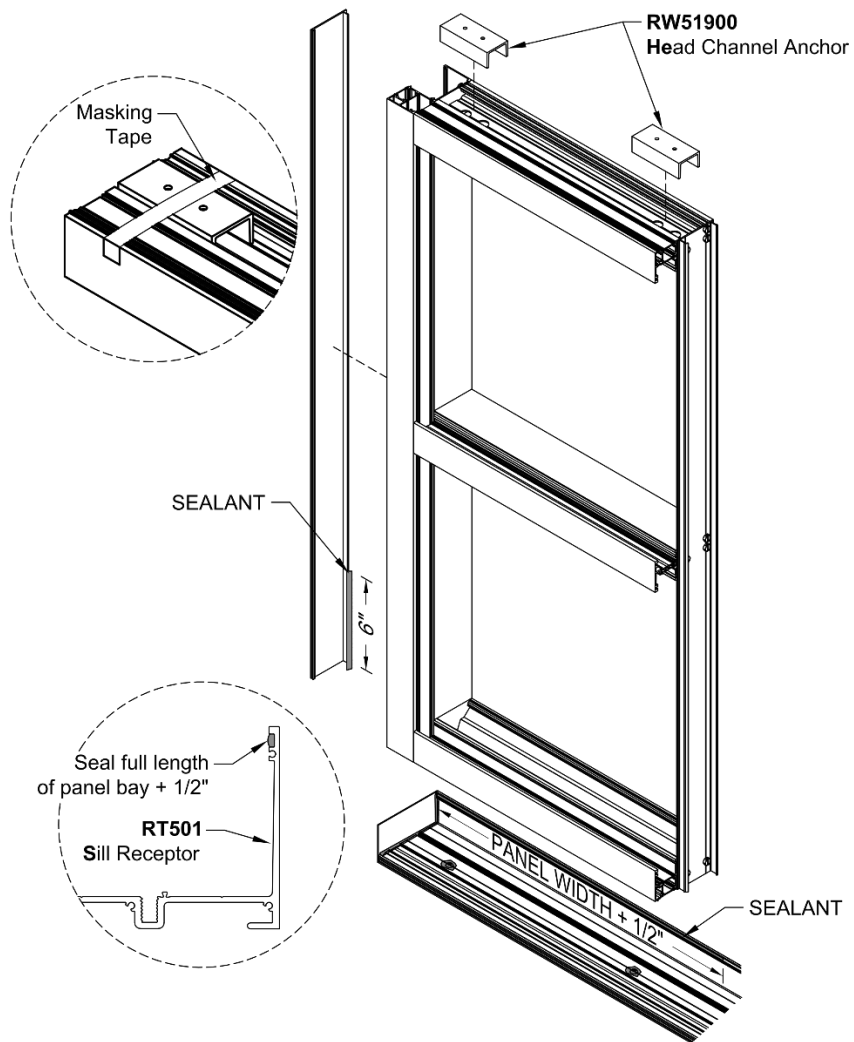

Figure 74: Panel Installation, First Panel
- 20.1 For every panel to be installed, temporarily tape the **RW51900** Head Channel Anchors to the Head, aligning the access holes in the anchor with the holes in the head member, as shown in *Figure 74*.
- 20.3 Just prior to placing the first panel, apply Sealant the full width of the panel bay plus 1/2" in the top of the Sill Receptor. Reference *Figure 74* for location.